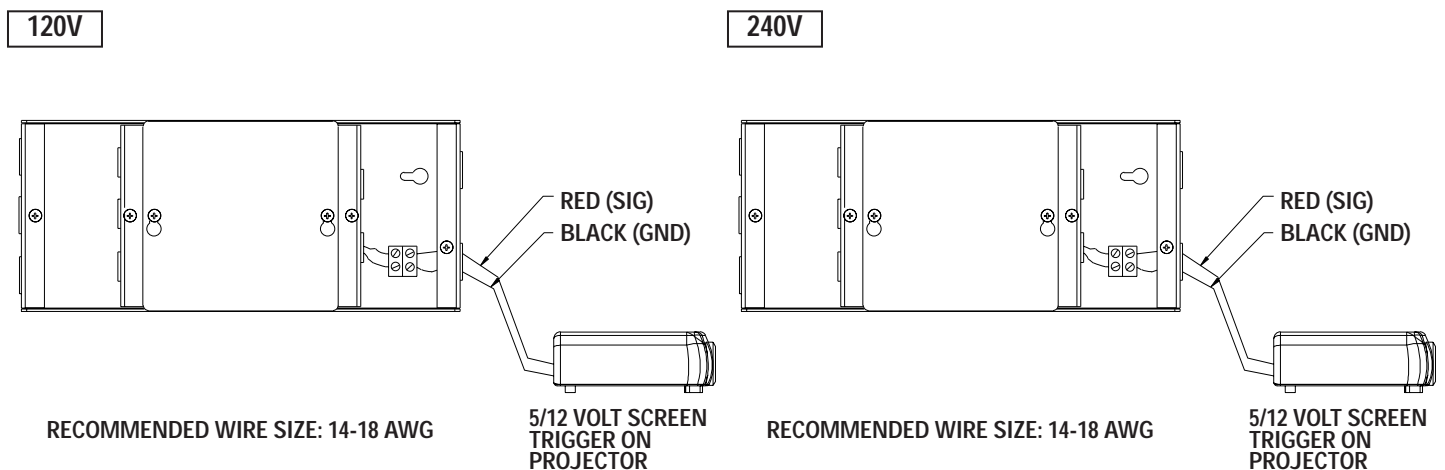

FIGURE 1
2. Connect the wires from the VPI that are labeled "Low Voltage Connection" to the end of the extended screen trigger wires above. See Figure 1.